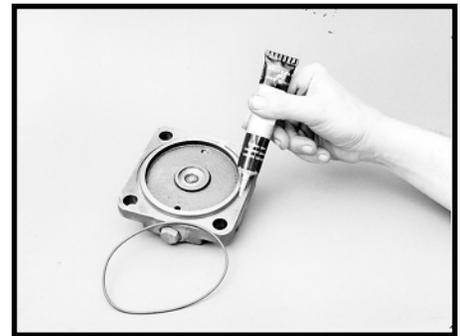
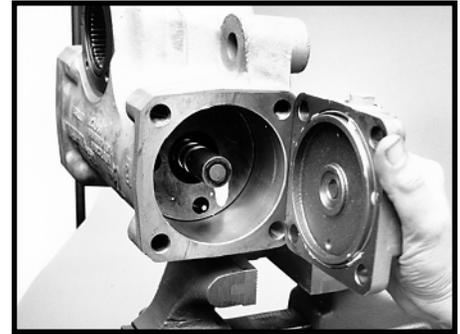

Figure 119
Figure 120
14. Assemble poppet adjusting screw (42) and nut (2) assembly into end cover (37) a few turns. Final adjustments will be made later.
**NOTE: The poppet valve adjusting screws may or may not be of the same length. If not the same length, assemble the shorter adjusting screw (42), 2.25 in. (57 mm) long, into the end cover (37).**
- 15. Assemble the worm shaft preload adjusting screw (38) and nut (39) assembly into the end cover (37) a few turns. Final adjustments will be made later. A slot screw driver or 5/16 inch Allen wrench socket required.
- 16. Apply clean grease to the end cover seal ring groove on the end cover (37). Install the new end cover seal ring (9) into the end cover seal ring groove. SEE FIGURE 119.
**CAUTION: When performing step 17, make sure that the rack piston (29) teeth are fully visible in the sector shaft cavity of the housing. This is necessary to insure proper location of the poppets, and to insure that the poppet adjusting screw will contact the poppets.**
- 17. Position the end cover (37) so that the poppet adjusting screw (42) is aligned with the end of the poppet (32). SEE FIGURE 120.